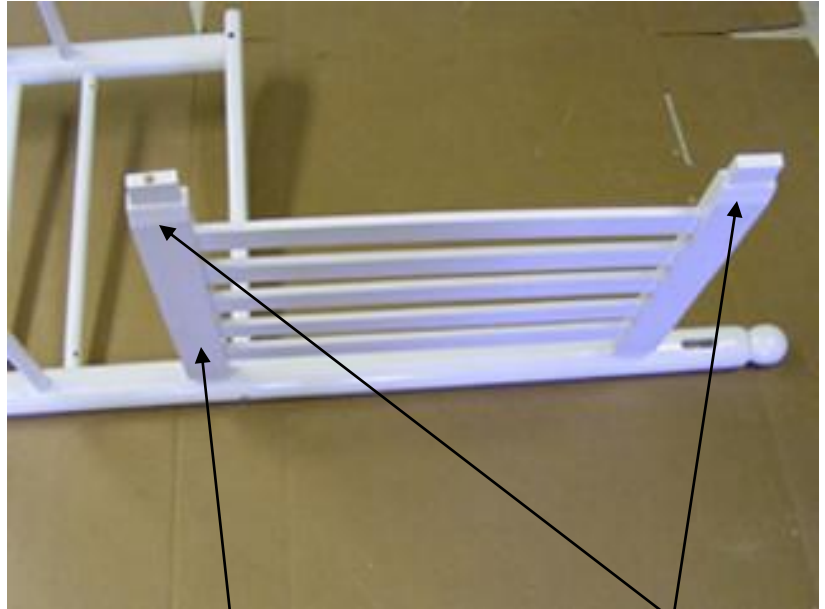

FIG. 2 B (Pre-drilled on bottom) Bevels
Insert Chair Back (B) into mortises on Chair Side. Note that the bevel faces the rear of the chair. Pre-drilled holes are on the bottom. Figure 2.